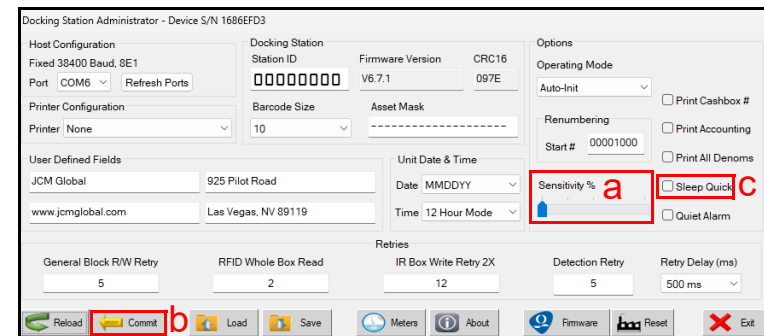

Figure 12 DSA Main Screen - Sensitivity % & Sleep Quick Options
When the Sleep Quick option (Figure 12 c) is selected by the user, the default waiting time associated with this function is reduced, so that the Docking Station goes into 'Sleep' mode faster.
The Docking Station's built-in optical sensors help determine when the Docking Station is clear, or when a Cashbox has been docked. The ambient light level of the room where a Docking Station is installed can affect Docking Station operation - for example, a dim room with too little light can cause erratic behavior (e.g., Cashbox Not Recognized, Partial Data Reads, Incomplete Initializations). To help reduce these occurrences, the Docking Station automatically calibrates itself to the light level of the room it is installed in each time that it is powered on. The sensitivity of the Docking Station photo sensors are adjusted to work properly with the amount of light available in the room, and the Sensitivity % slider bar (Figure 12 a) on the DSA Main Screen is set automatically. If the light level in the room changes, or if the user feels that the Docking Station is acting erratically, the Sensitivity of the Docking Station optical sensors can be adjusted. To do so:
1. Click and drag the Sensitivity % slider bar on the DSA Main Screen (Figure 12 a) left or right to decrease or increase the sensitivity of the Docking Station photo sensors.
2. Click the Commit  button (Figure 12 b) to save the new setting to Docking Station memory.